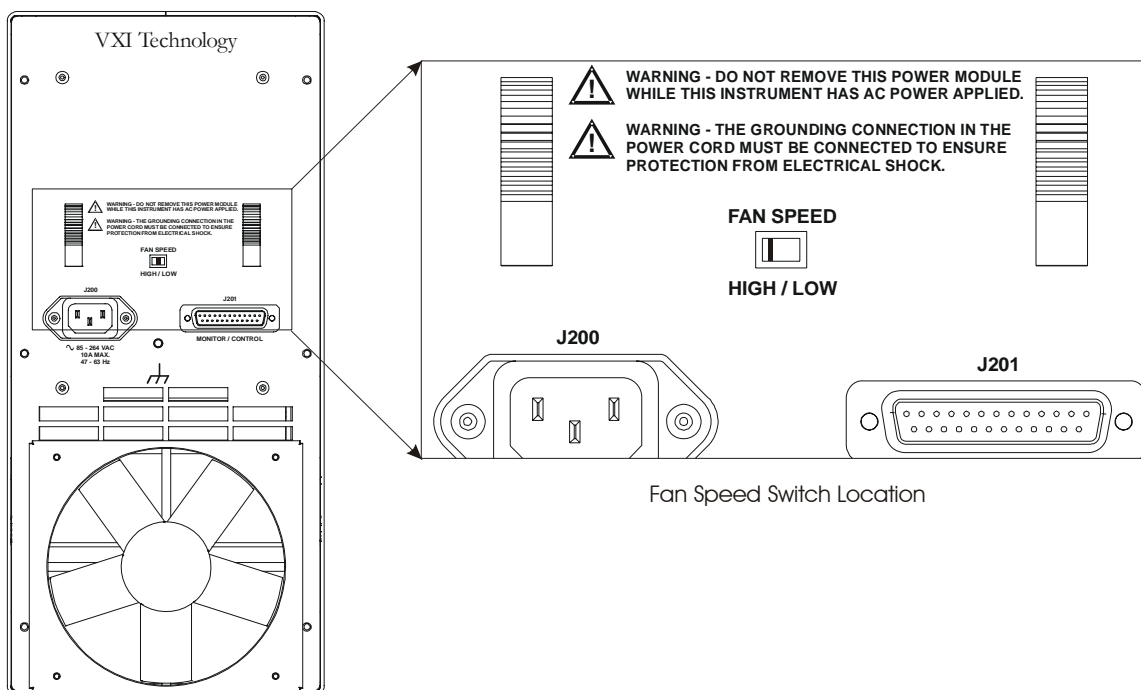

FIGURE 2-3: FAN SPEED SWITCH LOCATION
2. If the rack mount ears are installed flushed, remove the rack mount ears and install the front slide bracket to them as shown in the assembly drawing (see Figure 2-3) using a flat head screwdriver, then reinstall the rack mount ears in the flushed position. If the rack mount ears were originally installed recessed, simply install the slide brackets onto the ears.